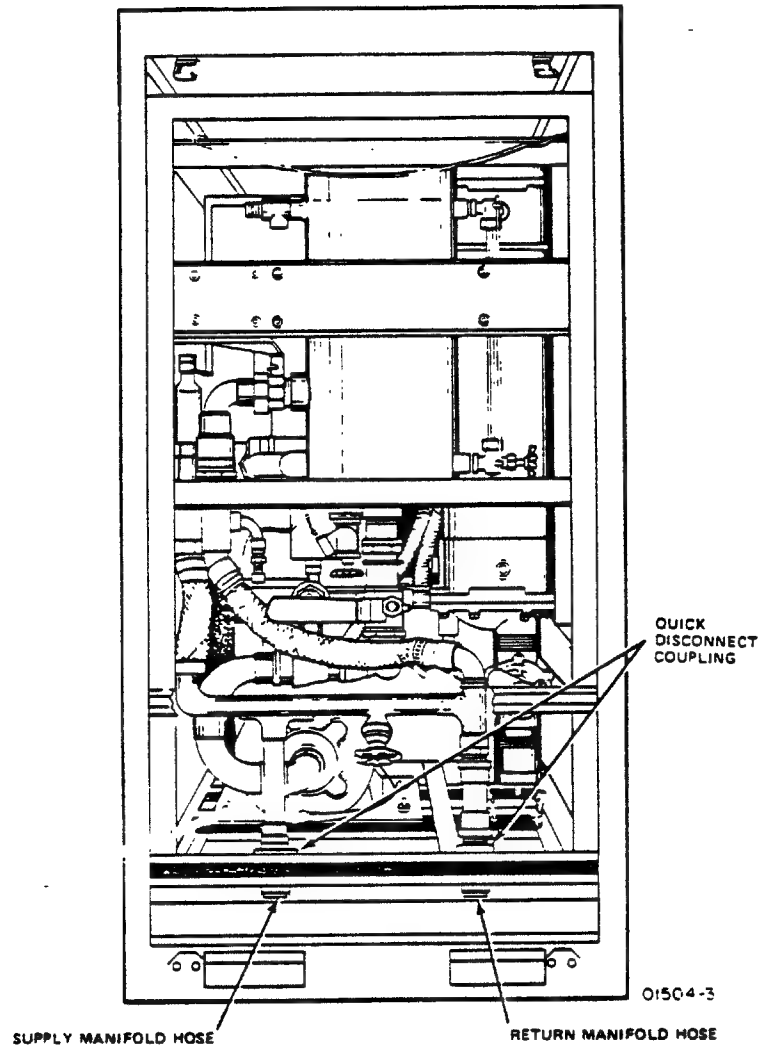

Figure 5-11. Water Manifold Hose Connections to GH251-C WCU
Use this procedure to connect preinstalled supply and return hoses on the water supply and return manifolds to the water cooling unit. Refer to figure 5-11.
- ___ 4. Connect transformer A1T2 for correct site voltage using table in figure 5-11.